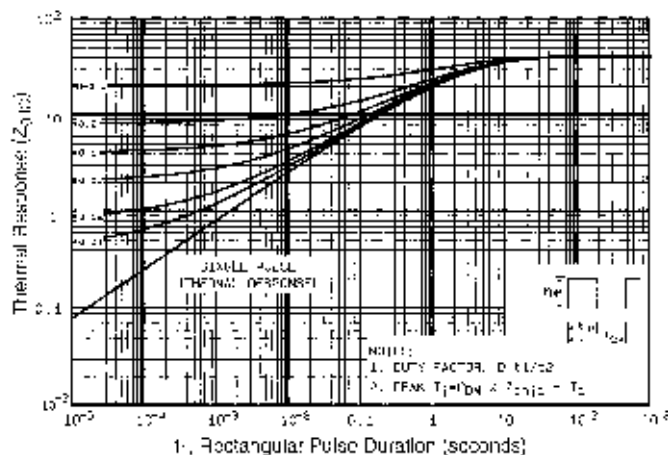

Fig 11. Maximum Effective Transient Thermal Impedance, Junction-to-Case
(1) Recurrent rating; pulse width limited by max. junction temperature (See Figure 11)